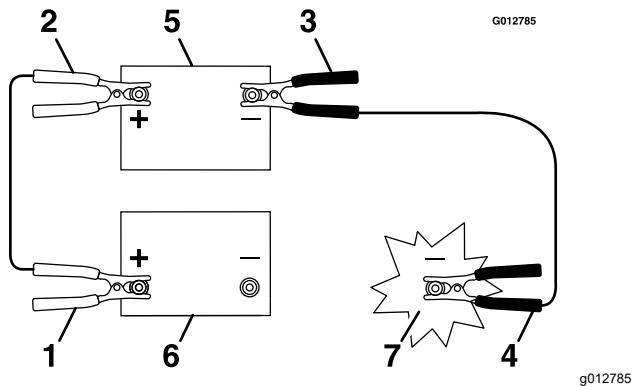

Figure 47
- Connect the positive (+) cable to the positive (+) terminal of the discharged battery that is wired to the starter or solenoid as shown in Figure 47.